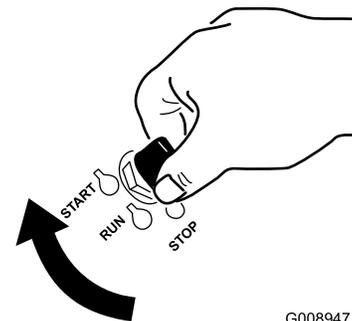

Figure 23
1. Turn the key to the START position (Figure 23).